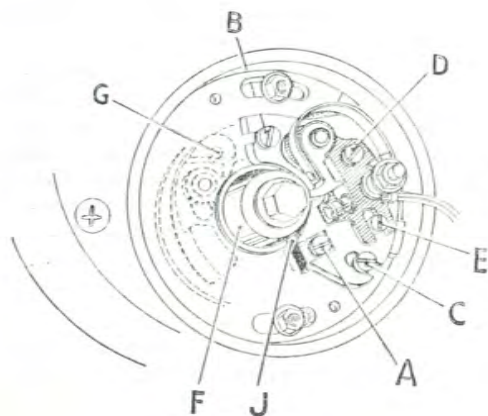

FIG. 14.
Contact Breaker (Fig. 14)
Inspect the mechanism when checking the contact breaker adjustment, and make sure that the two governor weights (Fig. 14) move freely. Oil each bearing (G) with a drop of light oil. Do not over-lubricate or the excess oil may find its way on to the contact breaker points.
If the spark setting is not correct, slacken the two screws (A) and (B) Fig. 14, which secure the plate carrying the contact breaker assembly and adjust the eccentric pin (C) until the points are just opening.
Should adjustment be required, slacken the two screws (A) and (B) Fig. 14, which secure the plate carrying the contact breaker assembly and adjust the eccentric pin (C) until the points are just opening and the above condition obtained. Retighten the screws securely.